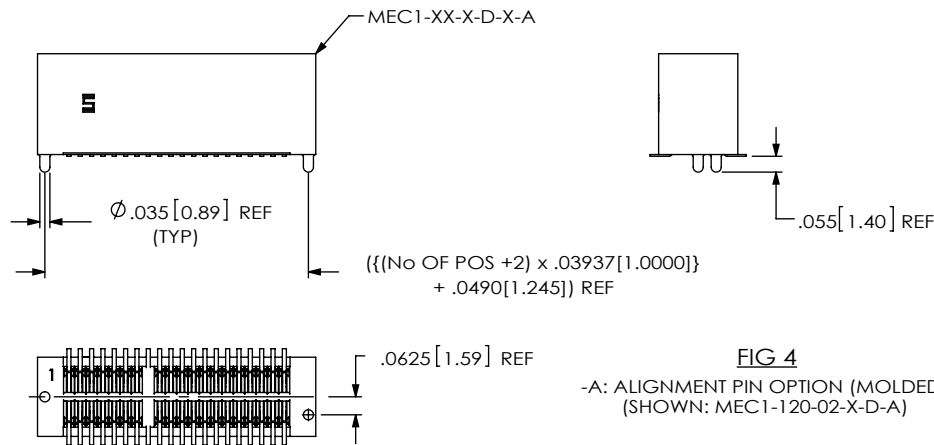

FIG 4
-A: ALIGNMENT PIN (MOLDED, SEE FIG 4, SHT 2) (USE MEC1-XX-X-D-X-A)